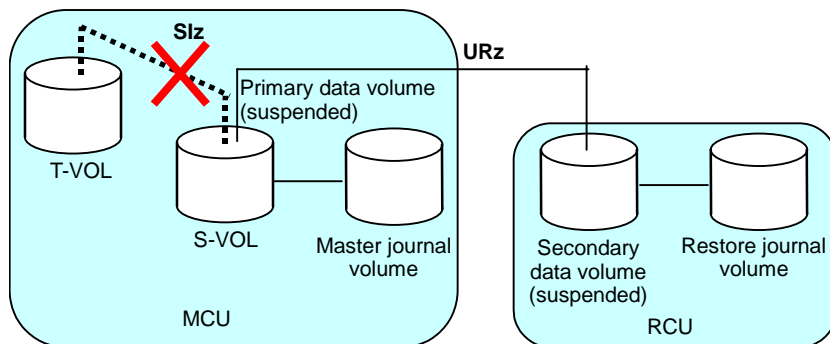

Figure 3-17 Restoring a Siz S-VOL - Step 6
6. Execute the Business Continuity Manager **YKDELETE** command on the Slz pair to release the pair (see Figure 3-17).